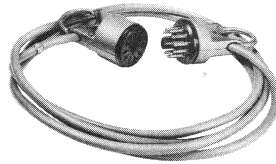

Fig. 34—P11C Test Cord
**Note:** A P11C test cord (Fig. 34) may be used with 1-type sets in lieu of the cover parking tool, and on all 2-type sets.
3	For a 2-type set: Open door and faceplate assembly and connect a P11C cord (Fig. 34) between P1 and J1.